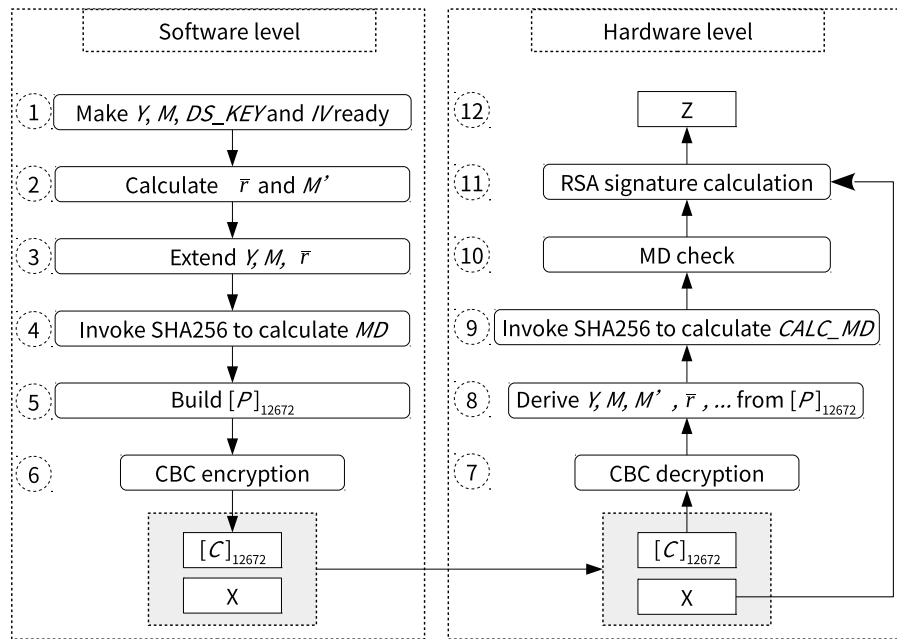

Figure 22.3-1. Software Preparations and Hardware Working Process
The left side of Figure 22.3-1 lists preparations required by the software before the hardware starts RSA signature calculation, while the right side lists the hardware workflow during the entire calculation procedure.
1. The software preparation (left side in the Figure 22.3-1) is a one-time operation before any signature is calculated, while the hardware calculation (right side in the Figure 1-1) repeats for every signature calculation.
Users need to follow the steps shown in the left part of Figure 22.3-1 to calculate C . Detailed instructions are as follows:
1. Decryption: Step 7 and 8 in Figure 22.3-1
The decryption process is the inverse of Step 6 in figure 22.3-1. The DS peripheral will call AES accelerator to decrypt C in CBC block mode and get the resulted plaintext. The decryption process can be represented by $P = \text{AES-CBC-DEC}(C, DS_KEY, IV)$, where IV (i.e., $[IV]_{128}$) is defined by users. $[DS_KEY]_{256}$ is provided by HMAC module, derived from $HMAC_KEY$ stored in eFuse. $[DS_KEY]_{256}$, as well as $[HMAC_KEY]_{256}$ are not readable by users. For more information, please refer to Chapter 21 HMAC Accelerator \(HMAC\).
2. Check: Step 9 and 10 in Figure 22.3-1
The DS peripheral will perform two checks: MD check and padding check. Padding check is not shown in Figure 22.3-1, as it happens at the same time with MD check.
3. Calculation: Step 11 and 12 in Figure 22.3-1